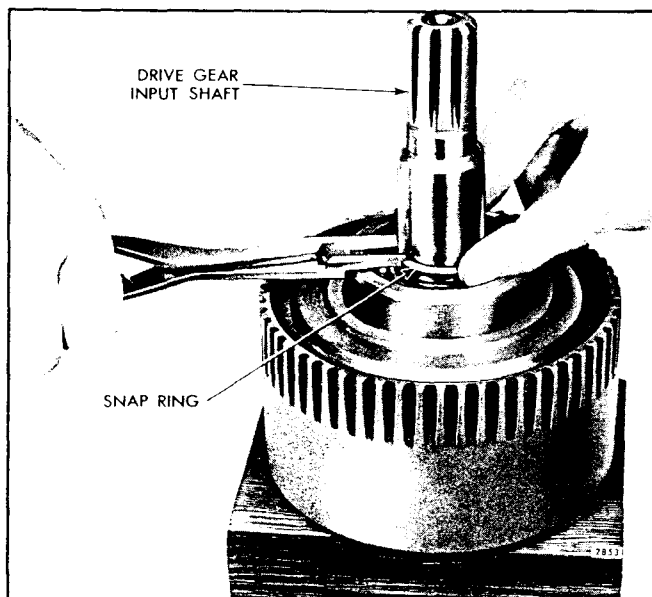

Fig. 25 - Removing or Installing Snap Ring from/on Drive Gear Input Shaft
- a. Place the drive gear input shaft, forward clutch and ring gear assembly on a wood block 3" thick and 6" square with a 1" hole in the center as shown in Fig. 25.
- b. Remove the drive gear input shaft bearing snap ring from the groove in the shaft next to the bearing inner race with a pair of snap ring pliers J 5586 as shown in Fig. 25.